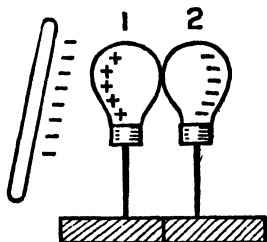

FIG. 231.
Experiment. Fix two door knobs or bedstead knobs on sticks of ebonite or sealing-wax. Fit a pair of wooden feet and place the knobs in contact (fig. 231). Hold a rubbed ebonite rod near one of the knobs. Separate the knobs, then remove the charged rod. On testing with an electroscope, it will be found that knob (1) is positively charged, while knob (2) is negatively charged.